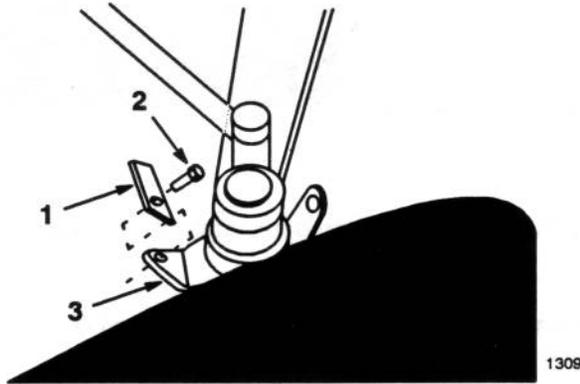

Figure 4
- Install steering spindle stops in front of the rear tab on front wheel spindles (Fig. 4). Align so stops contact the axle during tight turns and wheels do not contact the frame. Secure with self tapping screw (Fig. 4).